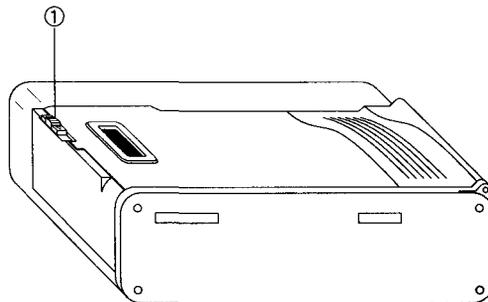

Figure 3. Camera back.
- Step 4: Open the camera back by sliding the latch, located on the left side of the camera. See Figure 3.